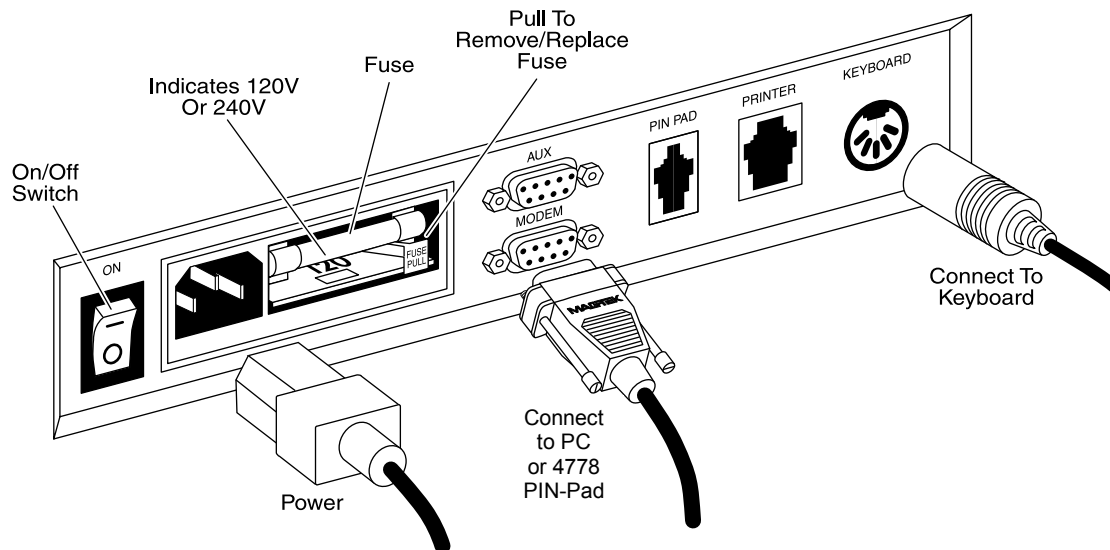
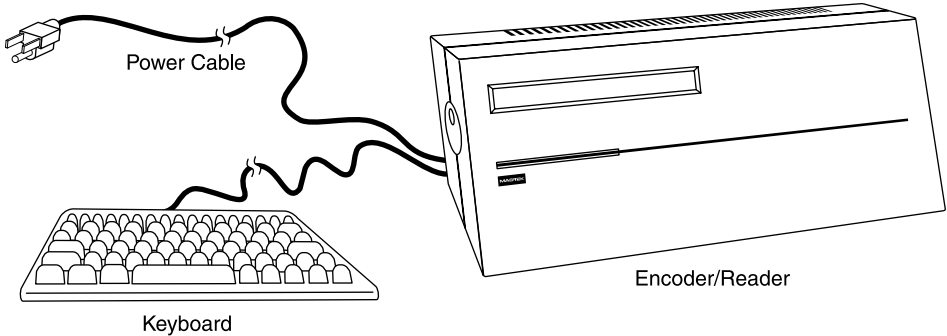

Figure 2-1. Rear Panel
Figure 2-2. Encoder to Keyboard Connection
1. The rear panel of the encoder is shown in Figure 2-1. If a keyboard is to be used, plug the cord from the keyboard to the rear panel of the encoder marked “KEYBOARD” as shown in Figure 2-2, and go to step 2.